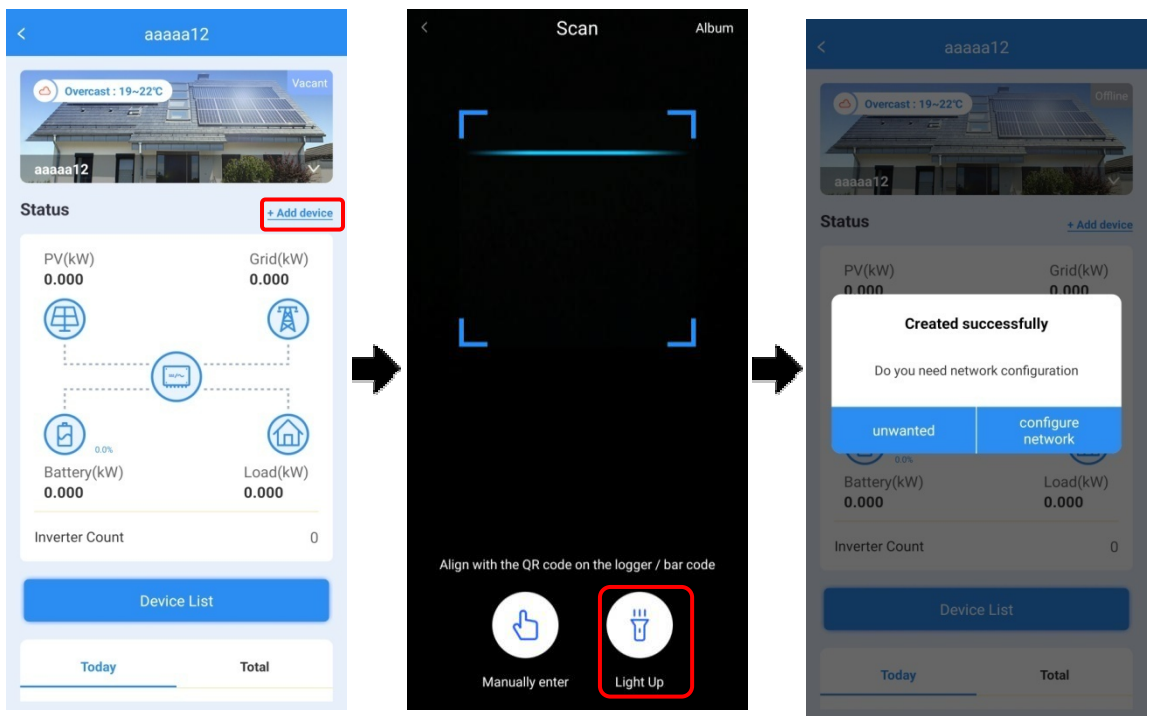

Figure3-34 Add new device
Step 5 Select "**+Add device**" to scan the QR code of the collector, the device will be added to the built plant, as shown in Figure3-34.